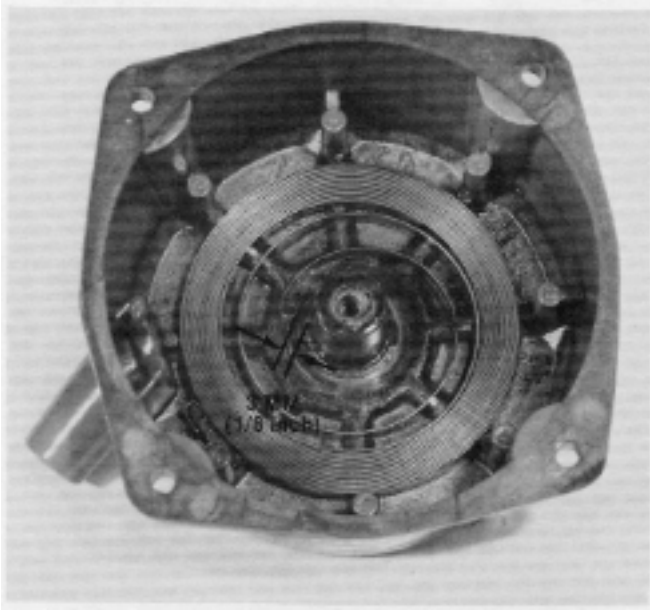

Figure 70
3. Position the spring in the starter case so that the spring's inner end is approximately 3 mm (1/8 inch) from the shaft. This distance ensures that the reel hook will engage the spring. See Figure 70.